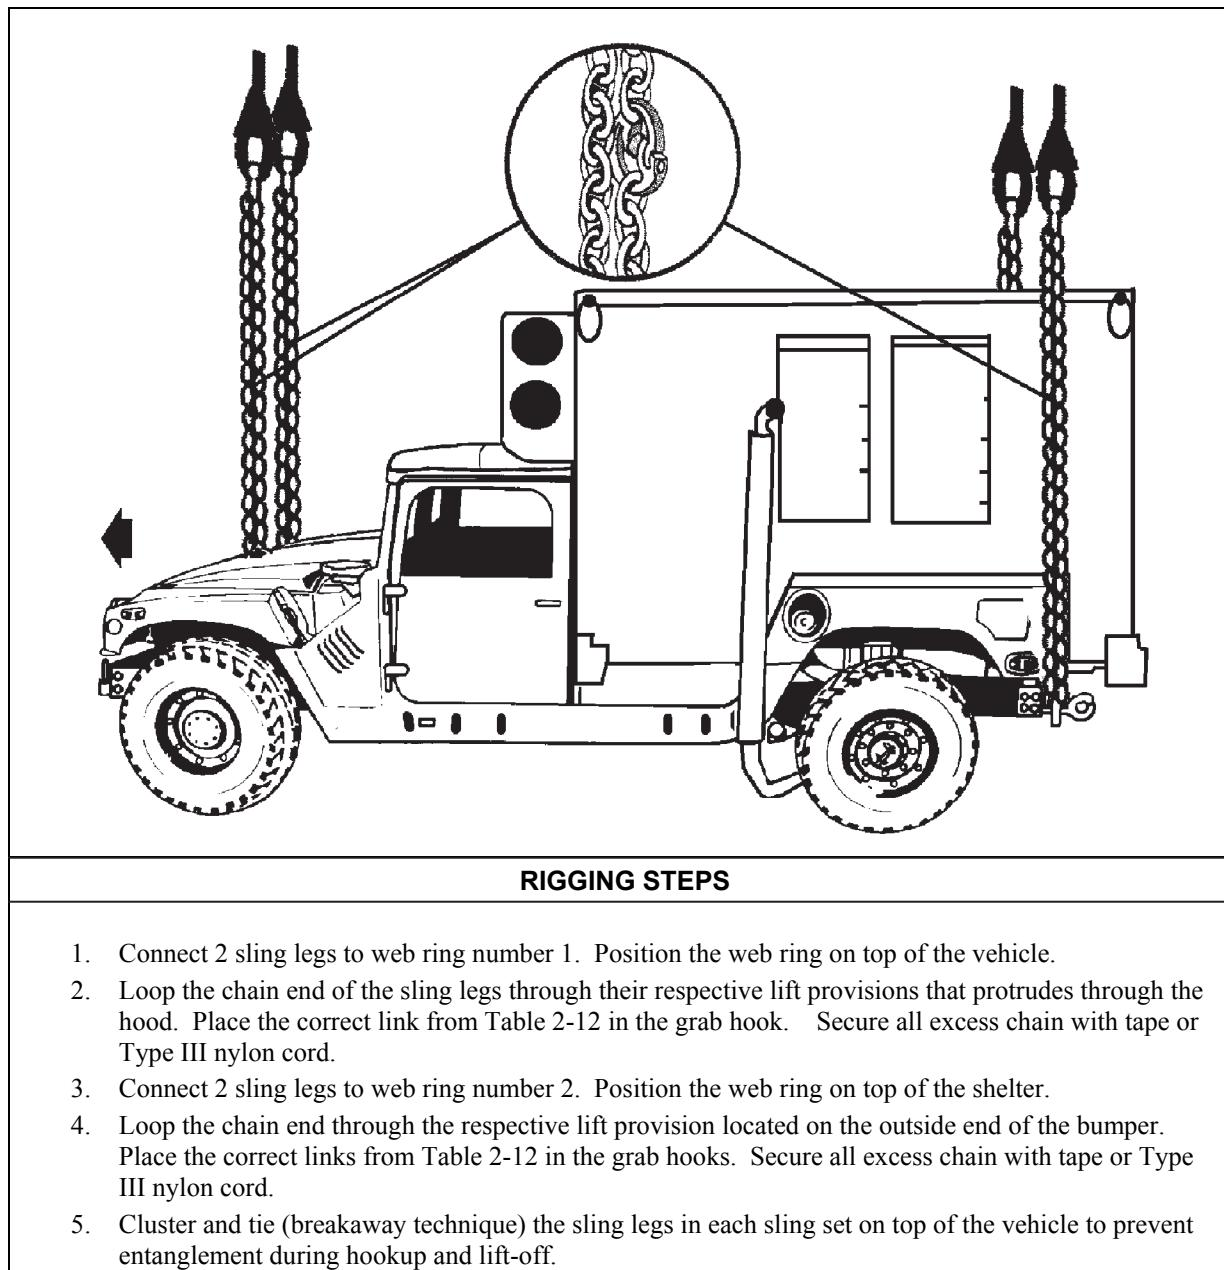

Figure 2-11. M1097A1 with Tactical Data Network Gateway Shelter
- **Rigging.** Rig the load according to the steps in Figure 2-11.